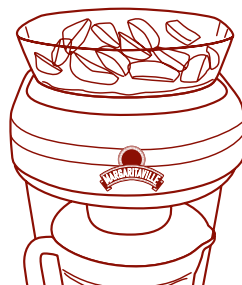

Figure 4
5. Fill the Ice Reservoir with ice cubes. *Figure 4*